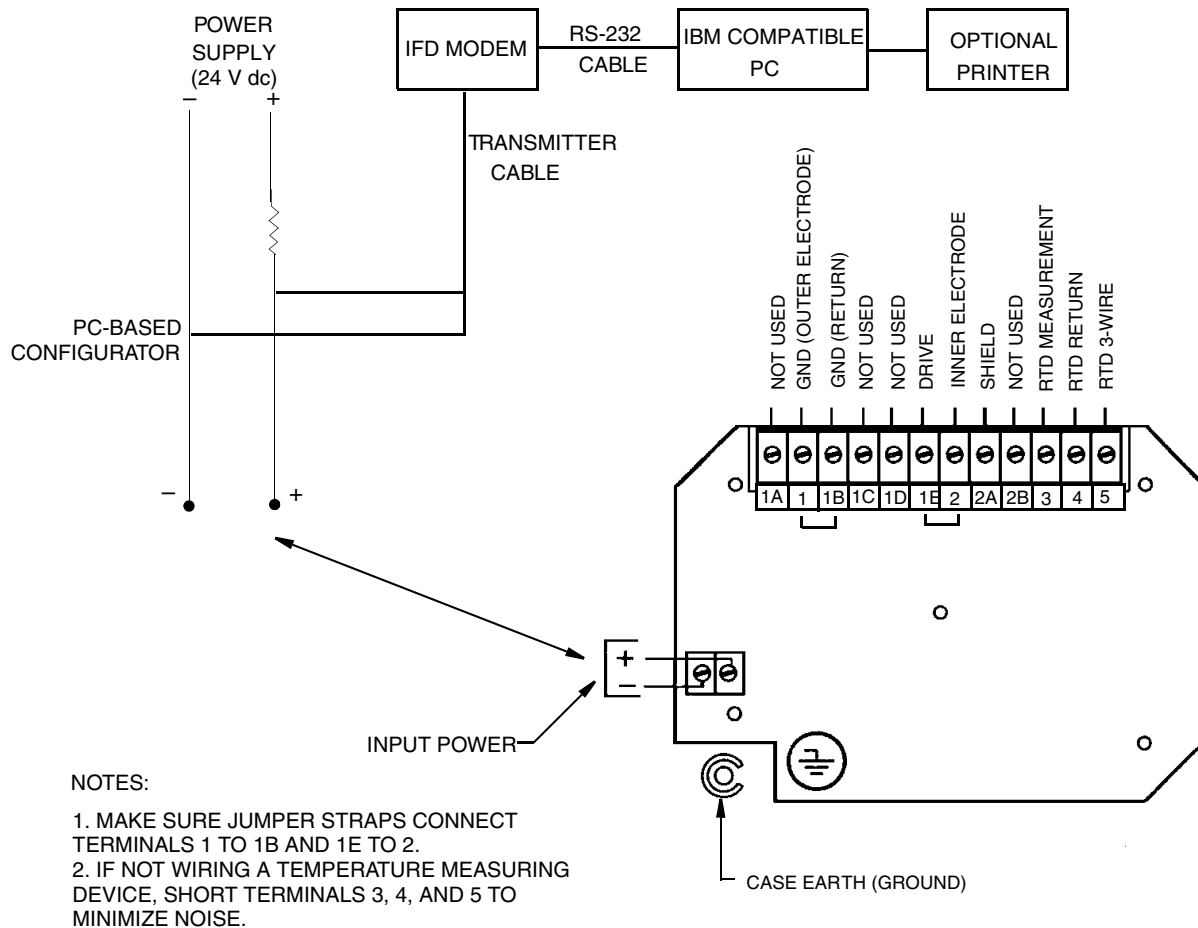

Figure 7. Wiring for 871CR Sensor
3. Bring the wires from your 2-wire input power in the left opening and connect to the input power terminals shown in Figure 7. Bring the sensor cable in the right opening and connect to the appropriate terminals near the top of the case per Figure 7.